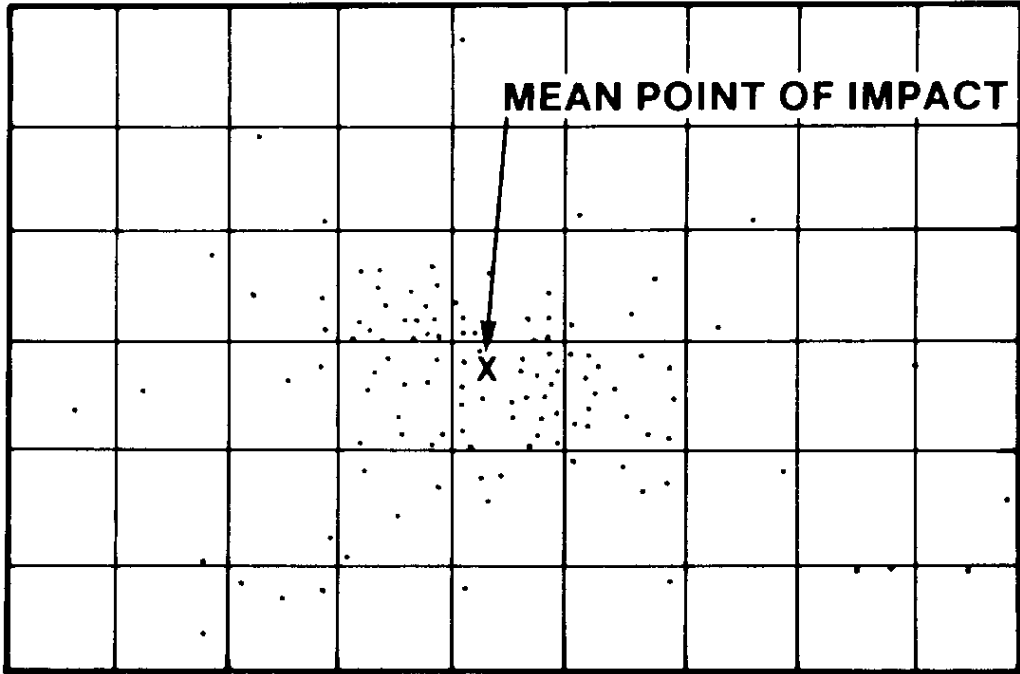

Figure 2-3 Mean Point of Impact
- b. **Mean Point of Impact (MPI).** The MPI is the average point of impact according to the density of the cone of fire (see Figure 2-3).